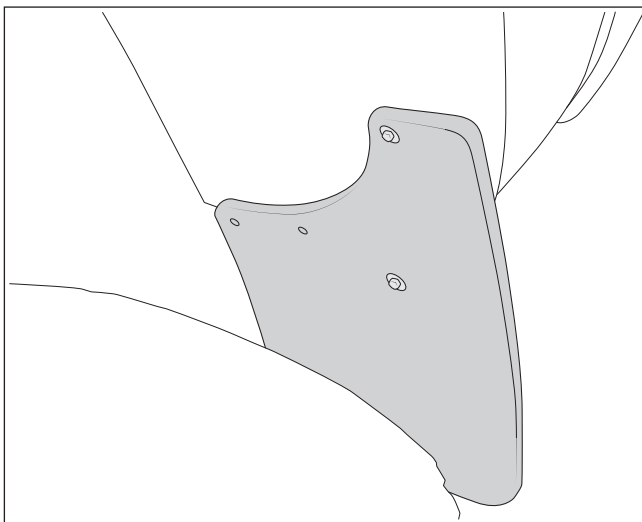
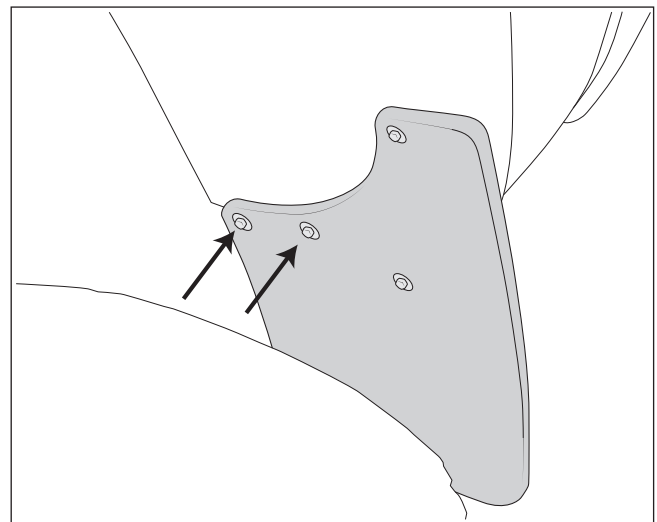

Figure 2
Figure 3
3. Position the Splash Guard to fender flare aligning the two (2) hole locations.
4. Loosely install #10 x 1.5" bolts with #10 washers to each location (Fig. 2). It is recommended to begin at top location and loosely install all fasteners and obtain best guard to body fit before tightening all fasteners – **HAND TIGHTEN ONLY. DO NOT USE POWER TOOLS.**
5. Using the guard as a template, drill two (2) 5/16-IN. holes through the fender liner
6. Install M6 x 35mm bolts with M6 x 18mm washers through the guard and liner. Secure with another M6 x 18mm washer and M6 hex nut on the back side (Fig. 3).